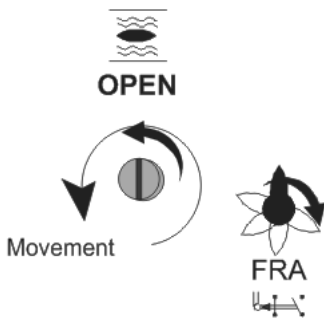
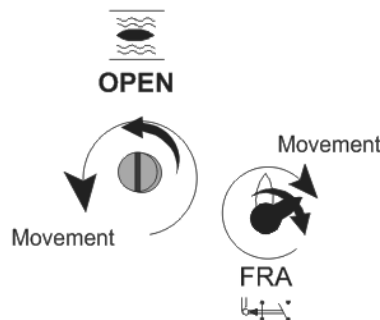

Figure 12.3-1
Figure 12.3-2
- Turn **A** spindle Counter-clockwise (Figure 12.3-1) until **B** spindle turns clockwise (At this moment FRA microswitch triggers). Just before FRA microswitch was tripped, **B** red arrow should be pointed to vertical: When **B** spindle (Red arrow) turns to right the FRA microswitch is tripped (Figure 12.3-2).